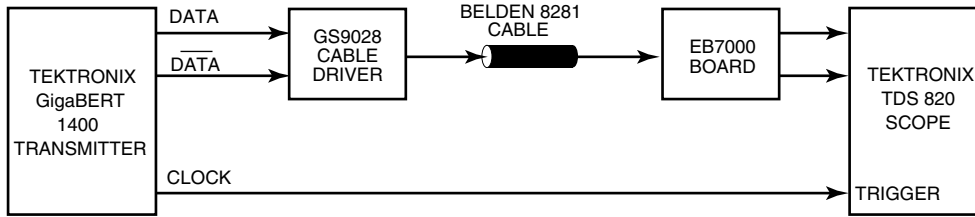

Fig. 1a Test Setup for Jitter Measurements
- Evaluated using test setup Figure 1a.
- 4. Evaluated using test setup Figure 1a.